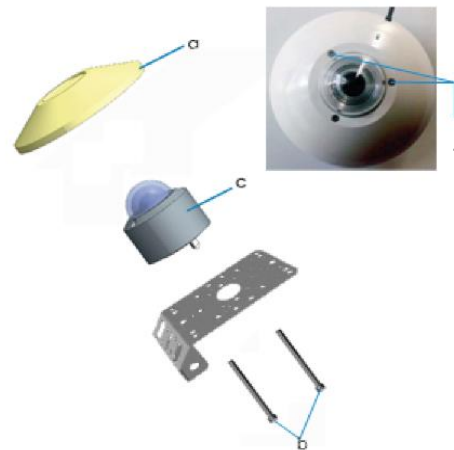

Fig. 36 Pyranometer on mounting device with screws, b, inserted from below
To mount a pyranometer, refer to Fig. 36 on p. 41 and follow the steps below:
1. If necessary, loosen the four screws (f in Fig. 36 on p. 41).
3. Place the pyranometer (c in Fig. 36 on p. 41) in position on the mounting plate, either horizontally or in the plane of the array.